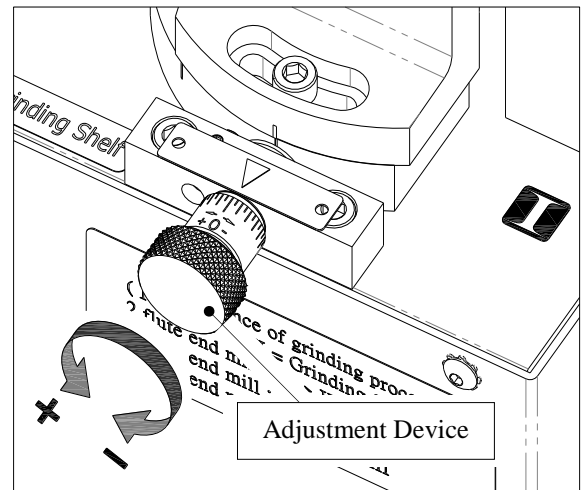

Fig. 13-1
This device is to adjust the Shelf (I) location back and forward to adjust the width of the cutting face. (Fig. 13-1)